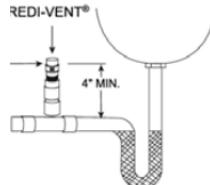
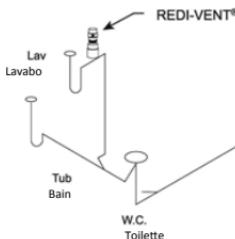

Figure 2
Figure 3
- The REDI-VENT® must be installed in a vertical position a minimum of 4" above the horizontal branch drain or fixture drain being vented (see Fig. 2).
- The REDI-VENT® is rated for single fixtures (fig 2), kitchen sinks and bathroom groups (fig. 3) including back to back applications up to 20 DFUs.